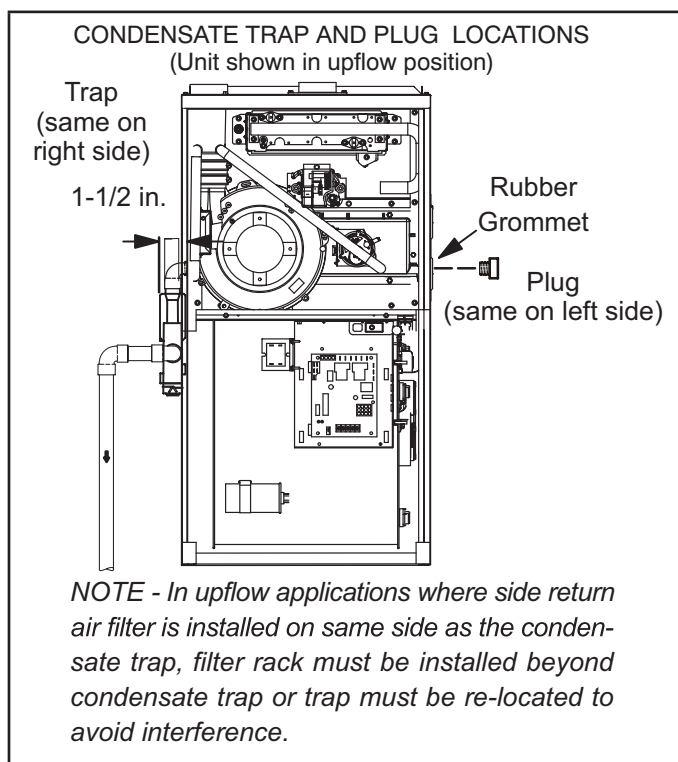
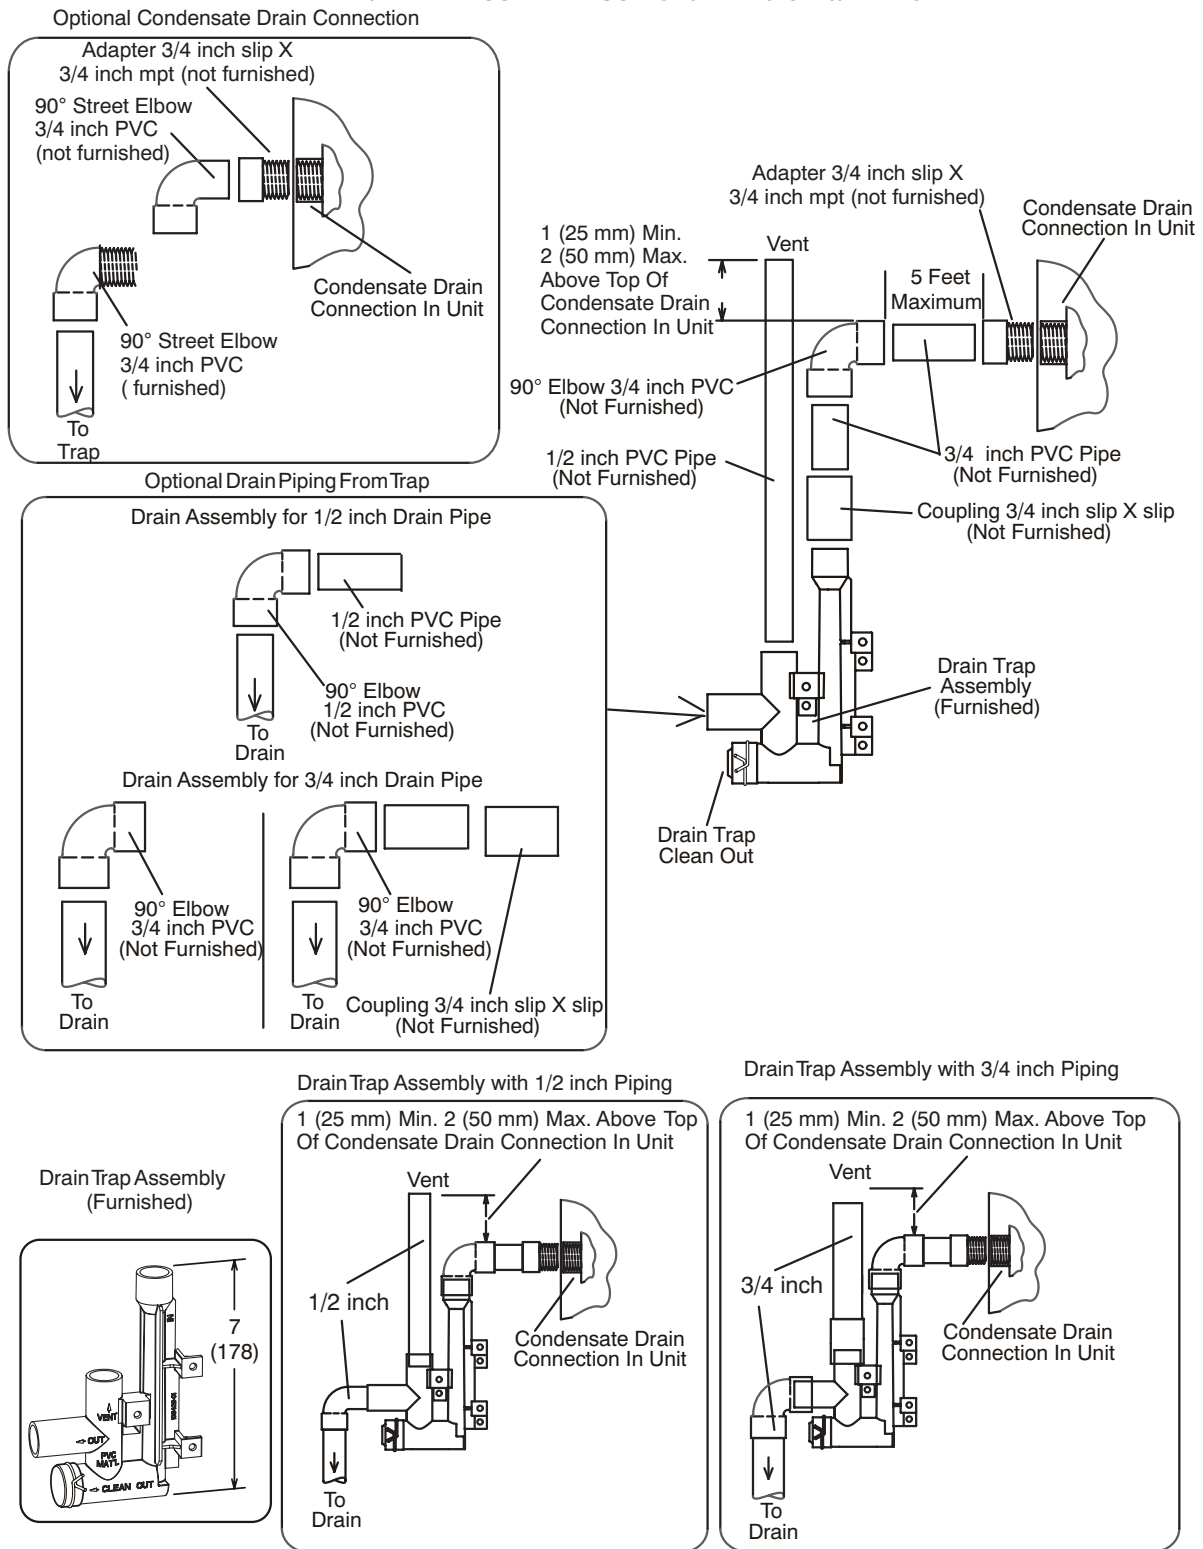

FIGURE 46
FIGURE 54
This unit is designed for either right- or left-side exit of condensate piping in upflow applications. In horizontal applications, the condensate trap must extend below the unit. An 8" service clearance is required for the condensate trap. Refer to FIGURE 46 and FIGURE 48 for condensate trap locations. FIGURE 54 shows trap assembly using 1/2" PVC or 3/4" PVC.
- 2 - Use a large flat head screw driver or a 1/2" drive socket extension and remove plug (FIGURE 46) from the cold end header box at the appropriate location on the side of the unit. Install provided 3/4 NPT street elbow fitting into cold end header box. Use Teflon tape or appropriate pipe dope.
- 3 - Install the cap over the clean out opening at the base of the trap. Secure with clamp. See FIGURE 54.
- 4 - Install drain trap using appropriate PVC fittings, glue all joints. Glue the provided drain trap as shown in FIGURE 54. Route the condensate line to an open drain. *Condensate line must maintain a 1/4" downward slope from the furnace to the drain.*